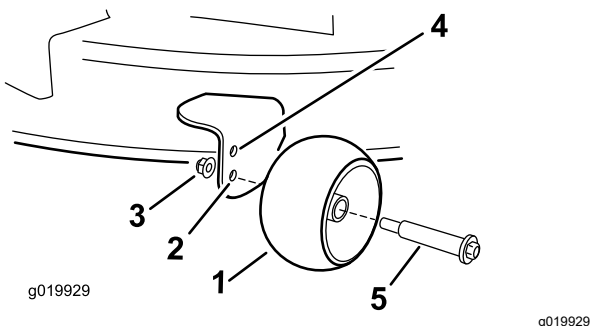

Figure 29
- Upper hole—use this position with the mower deck in the 63 mm (2-1/2 inches) and below the height-of-cut positions (Figure 29).
- Lower hole—use this position with the mower deck in the 76 mm (3 inches) and above the height-of-cut positions (Figure 29).